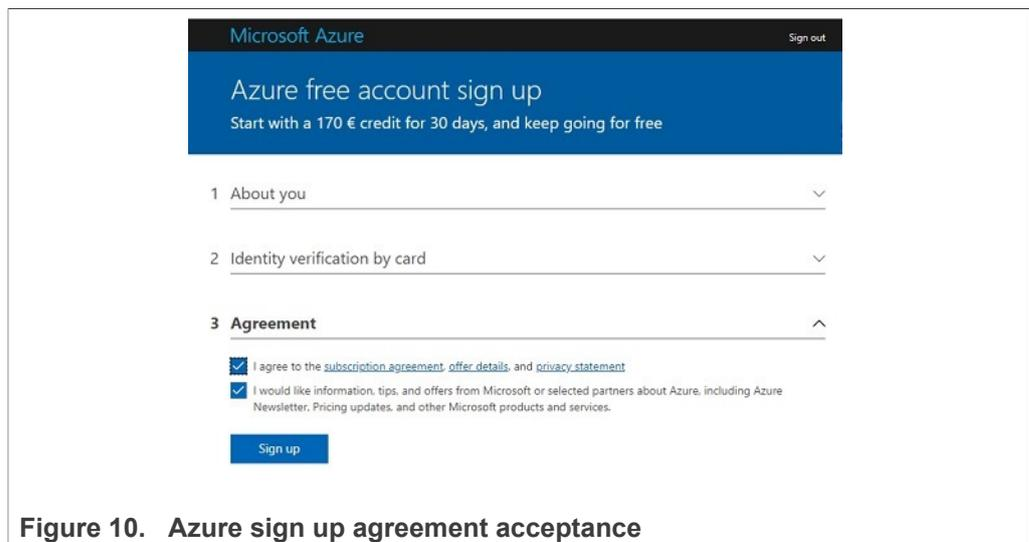

Figure 10. Azure sign up agreement acceptance
- Click **I agree** and click **Sign Up** as shown in Figure 10. In a few seconds, your account will be ready.